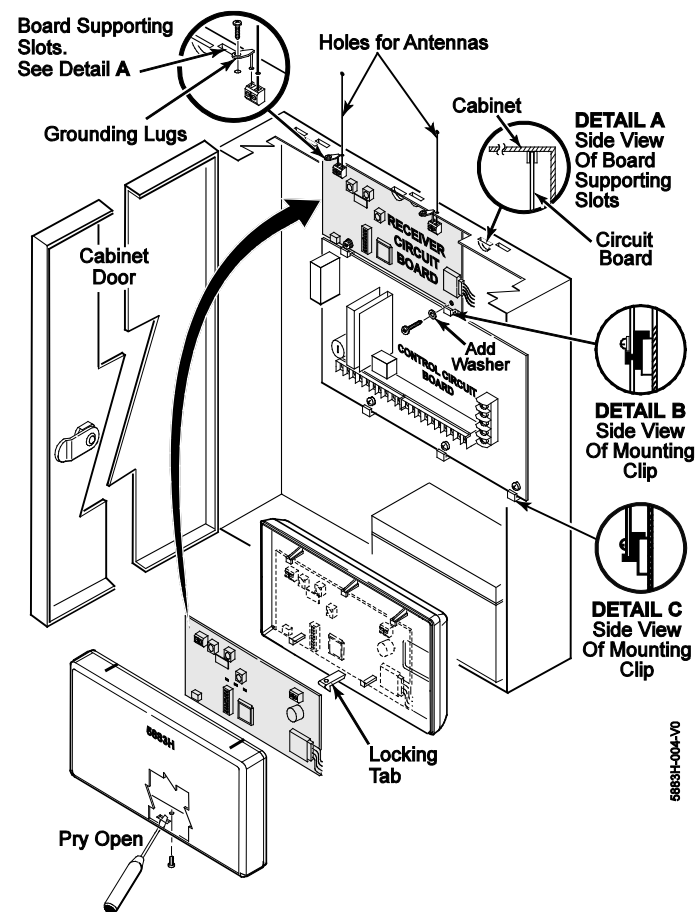

Figure 2: Installing the 5883H Board in the Control's Cabinet
2. If the 5883H is to be mounted within the control's cabinet (refer to Figure 2):
- c. Hang two short (black) mounting clips (provided) on the raised cabinet tabs, as shown in Detail B of Figure 2.
- c. Mount the module in the selected location. For greatest security, use all four mounting holes (two key slot holes and two round holes) in the plastic base. (Refer to Figure 2 above.)